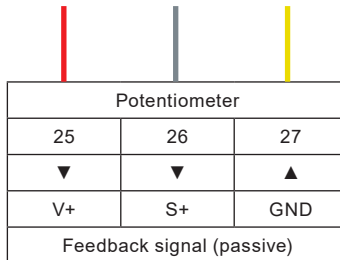

Fig. 13 Potentiometer Terminal Diagram
- Connect the wiring harness to the terminals as detailed in Fig. 13 Potentiometer Terminal Diagram